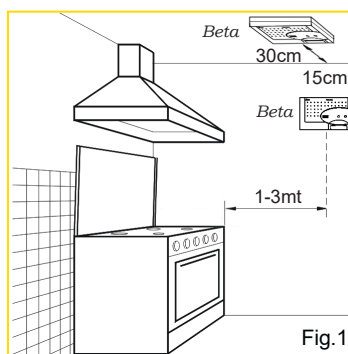

Fig.1
1) Ceiling mounting (Fig. 1):
- at least 30cm from any wall, beam or ceiling support (Fig. 1).
2) Wall mounting (Fig. 1):